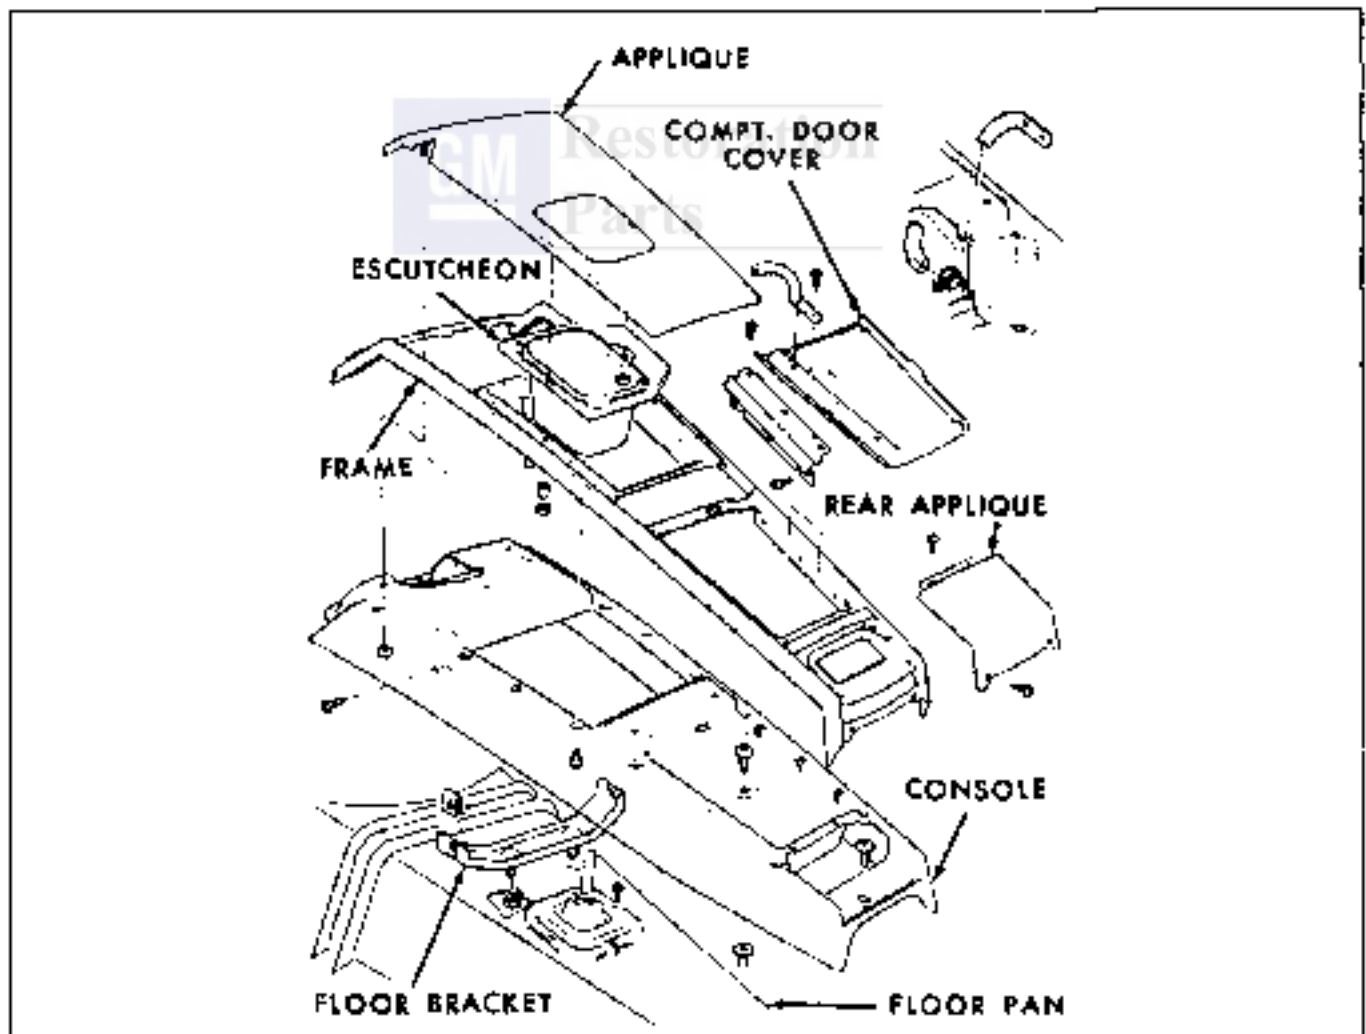

Fig. 15-32 Console—Firebird Manual Transmission
Manual Transmission (Fig. 15-32)
5. Remove rear applique (see Fig. 15-32) and screw underneath.
7. To disassemble (see Fig. 15-32), remove screws holding upper frame assembly to console. Remove nuts and remove applique and gearshift escutcheon.